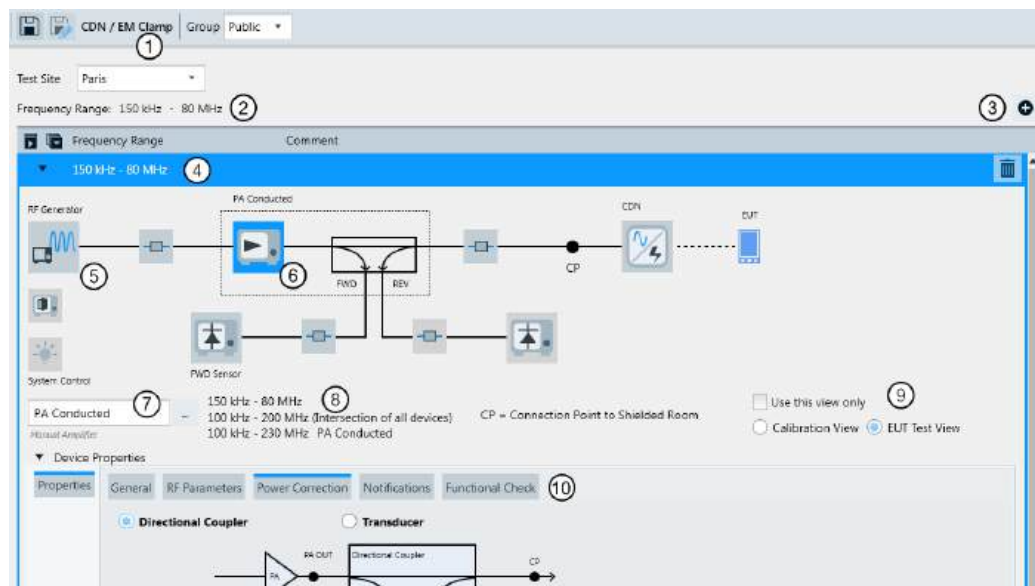

Figure 4-146: Example of an EMS hardware setup dialog
To add a frequency range, click the  button (labeled (3) in Figure 4-146). Per default, the added frequency range covers the next 10 MHz or 1 GHz on top of the highest existing frequency range:
A text line in the top of the dialog (labeled (2) in Figure 4-146) summarizes the total range from the lowest start frequency to the highest stop frequency of all ranges. This statement of the total frequency range within the hardware setup is just for your information and disregards any possible (preliminary) gaps.
The hardware setup diagram is available in two views (see buttons labeled (8) in Figure 4-146). Unless you select "Use this view only", both views must be configured: